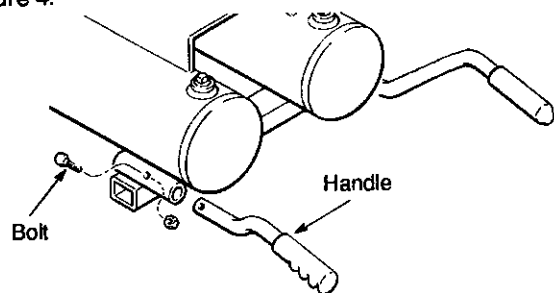

Figure 2. Installing Handles on Portable Compressor
3. Install the handles by inserting the ends into the base and secure with the bolts provided. See Figure 2.